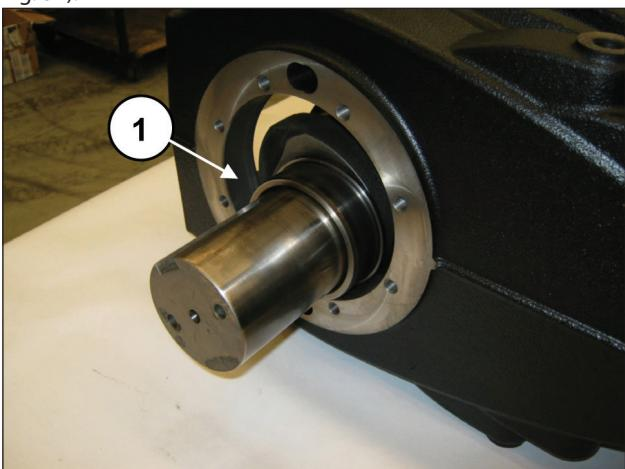
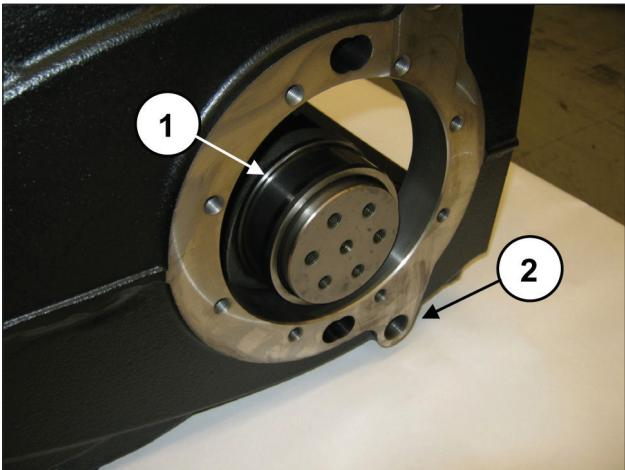

Fig. 51
Fig. 52
**The crankshaft must always be assembled with the PTO on the opposite side with respect to the G1/2" holes for the oil discharge plugs on the pump casing (pos. ②, Fig. 52).**
Fully insert the shaft into the casing (pos. ①, Fig. 51 and Fig. 52).